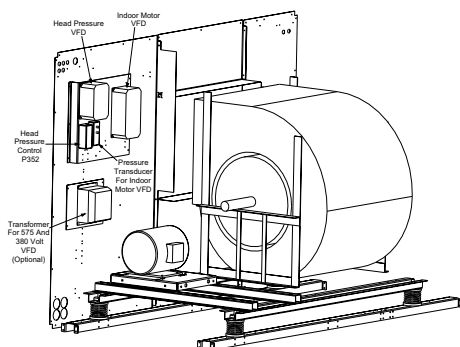

FIGURE 2 - MOUNTING LOCATION OF HEAD PRESSURE CONTROL
1. Locate the 4X4 conduit box opposite the control box in the Supply blower section (Figure 2). The 4X4 conduit box provides access to the #1 condenser fan power wiring.
2. Mount the Head Pressure Control assembly on the sheet metal panel approximately 2-4" to the right of the 4X4 conduit box. (Fig. 2)